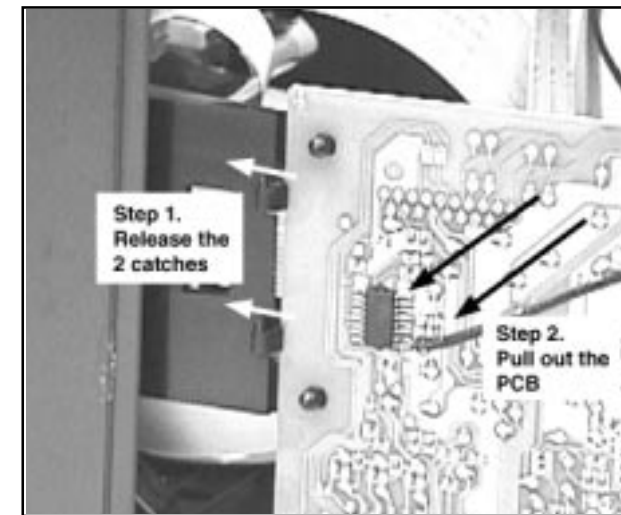
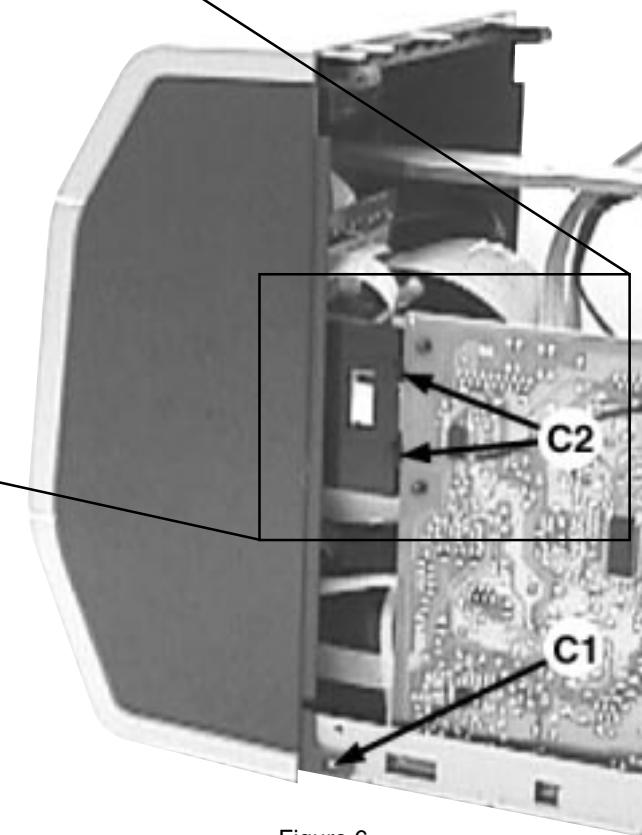

Figure 7
Figure 6
- 2) Release the fixation of the Combi Board (pos 1101-1001) to Bracket Combi (pos 252) by releasing the 2 catches C2 (see Figure 6) and pulling the board outwards as shown in Figure 7.
- 3) Uncatch 2 catches C1 (see Figure 6) on the left & right sides of the Cabinet Front (pos 101) and slides the Front Panel assembly out towards the front.